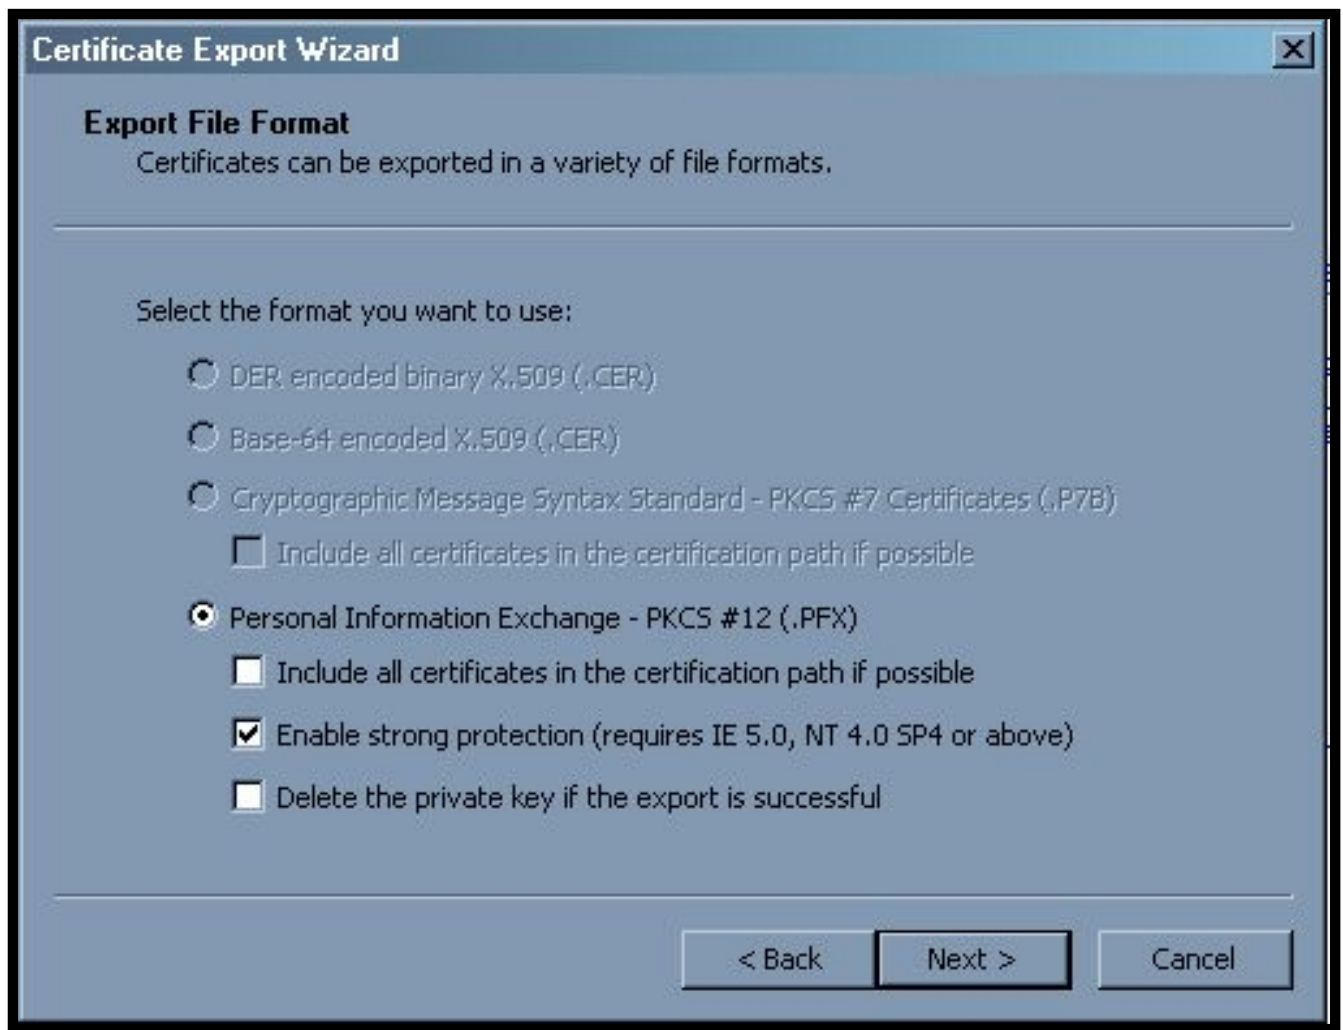

Figure 4.1-5: Export File Format
6. Click the *Next* button on the "Export File Format" screen. Leave the default settings as they are, as shown in Figure 4.1-5 below.